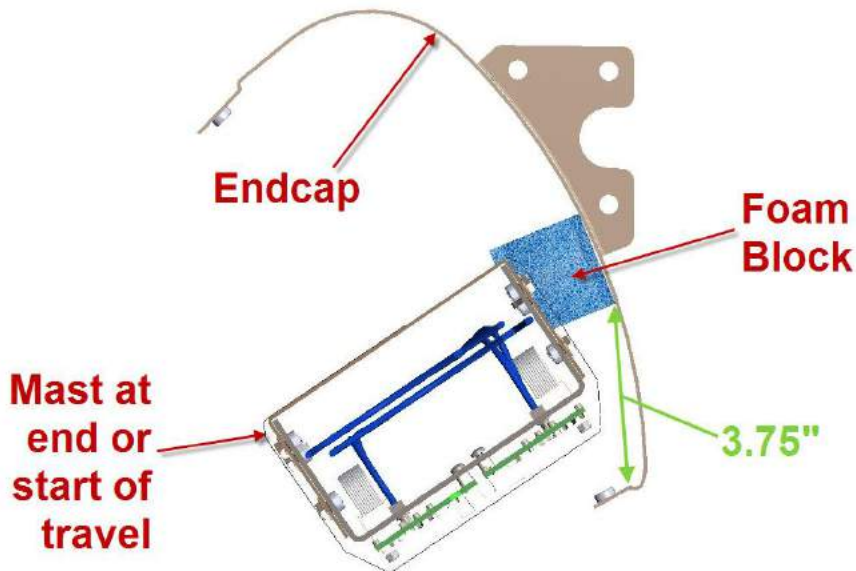

Figure 106: Top Down View
13. Check if the foam blocks are properly installed when the mast comes to its end of travel or is at start of travel, the foam blocks should be softly touching the front corner edge of the mast. See top down view in Figure 106.